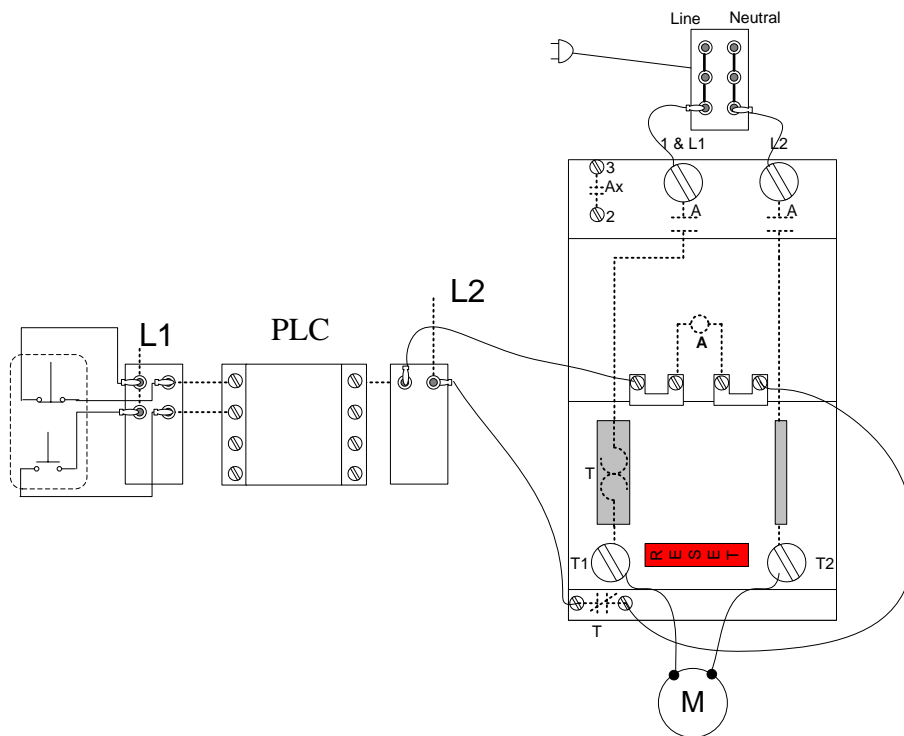

Figure 3: Actual connection of the switches and motor to PLC
*Figure 3. A branch circuit overcurrent device serves as a disconnecting means for a stationary motor less than 1/8 hp. Plug and receptacle serve as disconnecting means for 1/3 hp or less. (Source: 2014 NEC handbook).*